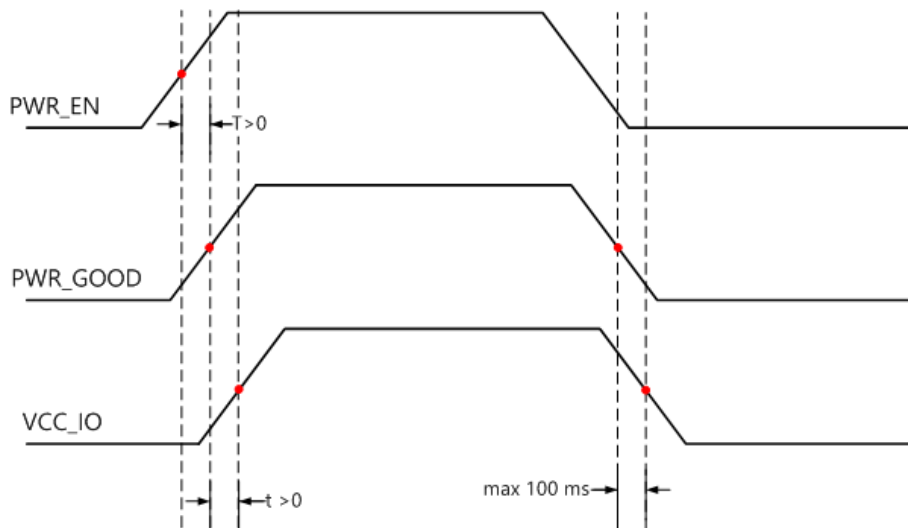

Figure 10: Power-Up Sequence - VCC\_IO in Relation with PWR\_GOOD and PWR\_EN Signals
*Do not power the VCC\_IO pins when PWR\_GOOD and PWR\_EN signals are not active. If the module is not powered, you need to make sure that the VCC\_IO voltages are disabled (for example, by using a switch on the base board, which uses PWR\_GOOD as enable signal). Figure 10 illustrates the VCC\_IO power requirements.*
*Do not power the VCC\_IO pins (for example by connecting VCC\_3V3 to VCC\_IO directly) when PWR\_EN is driven low to disable the module. In this case, VCC\_IO needs to be switched off in the manner indicated in Figure 10.*